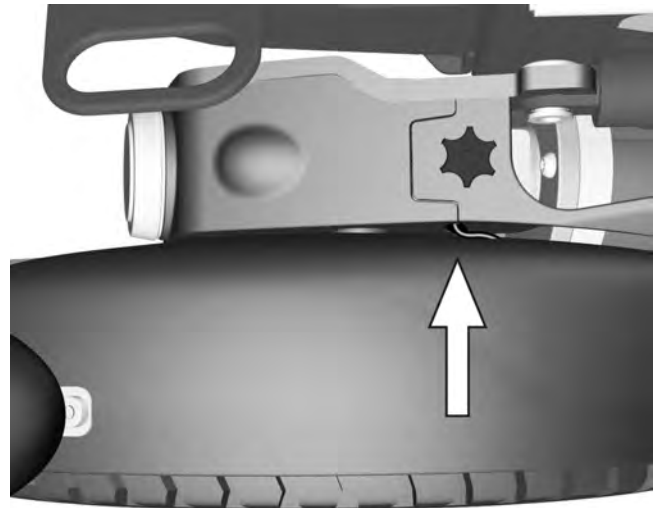

Figure 14. On wheelchairs with lights, pull the cable out of the slot to reveal the cable connector. Divide the connector to unplug the front lights.
1. On wheelchairs with lights, pull the cable out of the slot to reveal the cable connector. Divide the connector to unplug the front lights. See fig. 14.